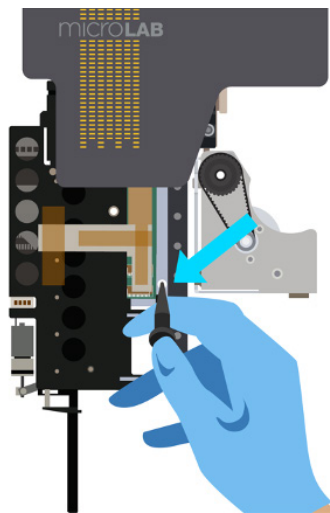

Figure 6-13: Ejecting a pipetting head
- c. Push the pipetting head removal tool through the hole indicated in Figure 6-13.** The pipetting head will be ejected slightly, and can now be removed by pulling it to the left, away from the pipetting arm.